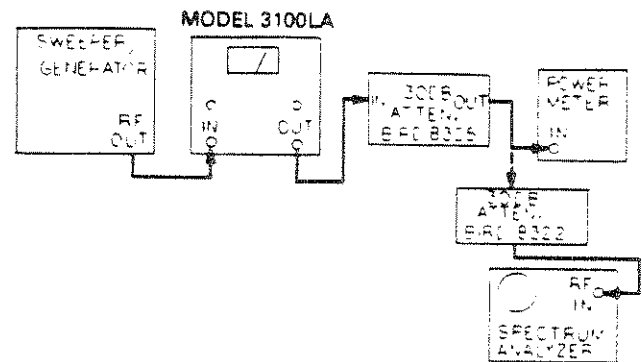

Figure 5-3. RF Output Distortion Test Set-Up
- a. Set-up the test equipment as shown in Figure 5-3.